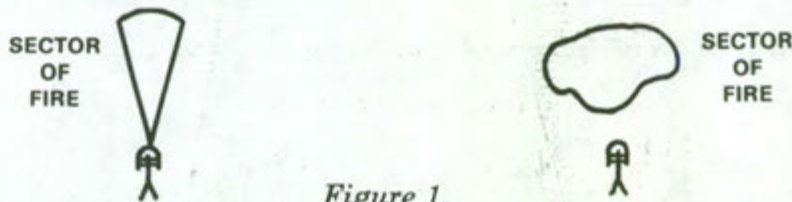

Figure 1.
(1) Priority of engagement. Under certain circumstances, a priority of engagement by type of vehicle may be assigned. For example, if enemy AA fire is preventing the Air Force or attack helicopters from operating in the forward battle area, destruction of AA weapons may be given a priority; if long-range enemy ATGMs are reducing effective employment of tanks, they may be designated as priority targets. When a target(s) is assigned an engagement priority, that target is engaged first when it appears. Other targets are engaged after the priority target(s) has been destroyed.
(2) Sectors of fire. A sector of fire is the area of responsibility for fire assigned to a weapon or unit. Sectors are assigned to insure that fires are adequately distributed throughout the battle area, to insure that all armor avenues of approach are covered, and to facilitate the massing of fires. They are normally designated by natural terrain features, whenever possible, for ease of identification (figure 1).